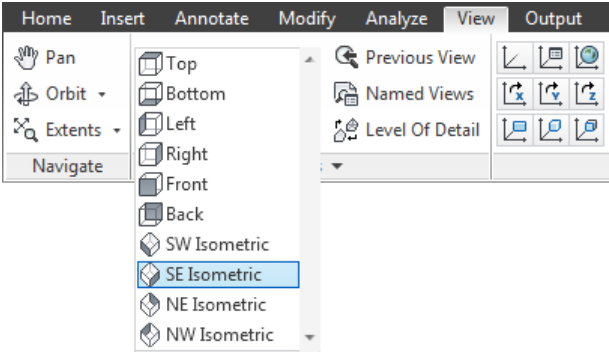
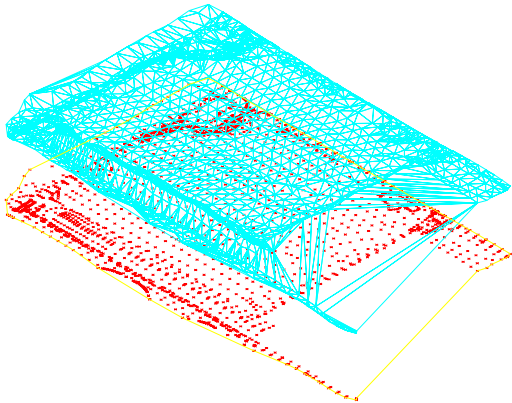

Figure 3-60 The **SE Isometric** button chosen from the **View** tab
Figure 3-61 The **SE Isometric** view of the **EG Surface**
7. Next, choose the **SE Isometric** button from the **Views** panel of the **View** tab, as shown in Figure 3-60 to view the surface in 3D view; the surface is displayed with triangles at an exaggerated elevation, and the surface border and points are displayed at the original elevation, as shown in Figure 3-61.
Fig 3-61 displays the model view of the surface using the model view settings previously defined for surface style.